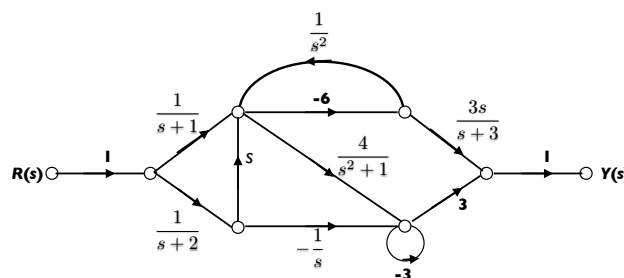

Figure 1: Signal flow graph for Q.4
- For the signal flow graph in Figure 1, (i) draw the block diagram relating $R(s)$ to $Y(s)$ and (ii) find the transfer function $Y(s)/R(s)$.